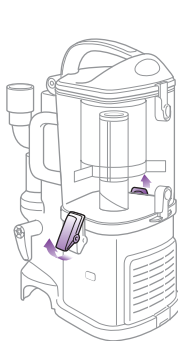

Fig. 16
- 1 Undo the latches on the sides of the dust cup by lifting them up and outwards to remove the dust cup from the motor base. (Fig. 16)